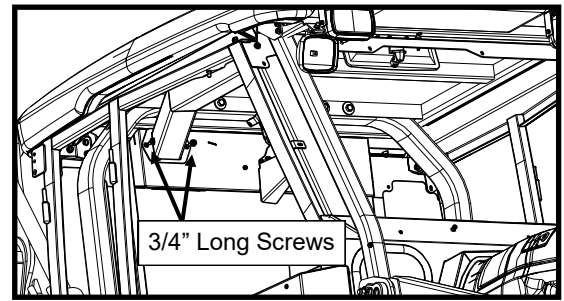

Figure 9.1: Heater Duct Rear Bolts
- 9.1 Fasten the rear of the heater duct to the rear panel (see Figure 9.1). Leave hardware loose.